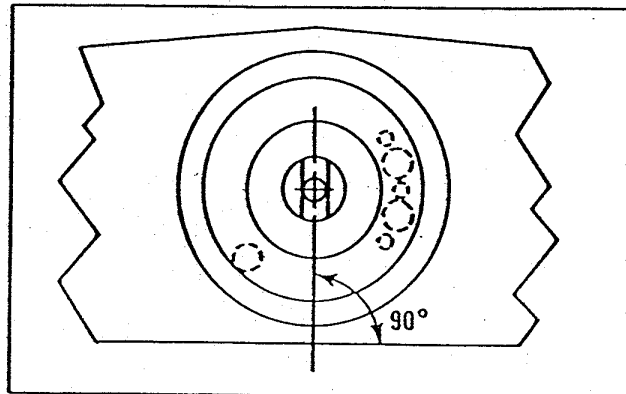

Figure 1. Transfer Disc Orientation in "OFF" Position.
3. Install the transfer disc. Note the rotational position shown in figure 1 and the mark you made before removing the manifold cap.